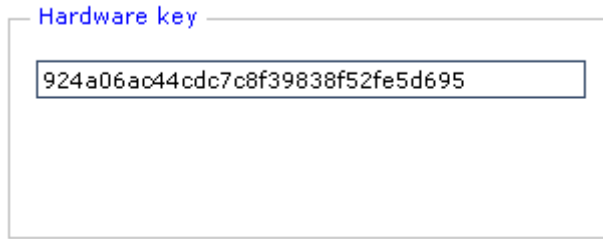

Figure 54: unit's hardware key.
1. Measuring Device’s hardware key: log on the Measuring Device configuration web UI (see section 6.1 for log on instructions) and find it at the “Administration” tab (Figure 54).